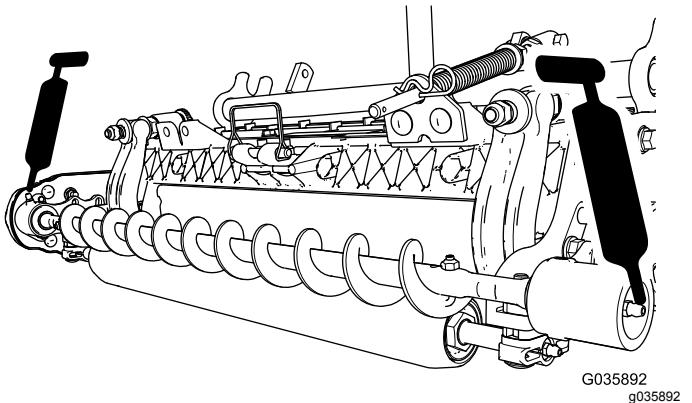

Figure 17
- Lubricate the grease fittings on each of the roller brush bearing housings with No. 2 lithium grease (Figure 17).